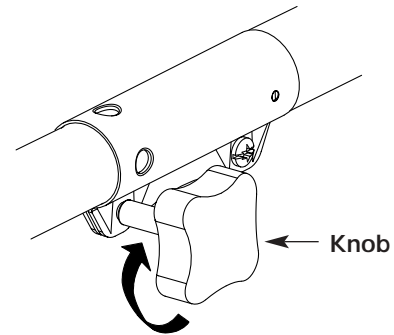

Fig. 7
4. Turn the knob clockwise to tighten (Fig. 7).